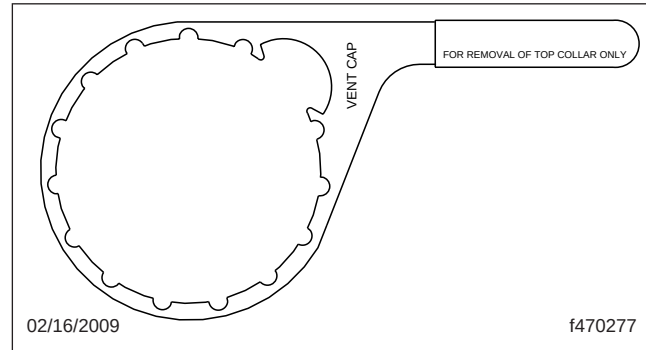

Fig. 3, DAVCO Collar Wrench
4. Using a DAVCO Collar Wrench (**Fig. 3**), remove the clear cover and collar.